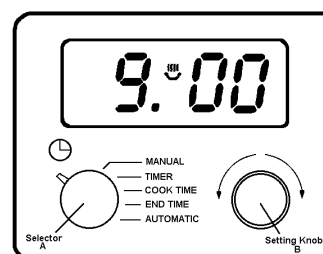

Fig.7
To stop the sound, press button (1). The display will stop flashing and show the time of day, e.g. 15:00. The cooking symbol () will go out. See Fig. 7.
- i) Make sure the electricity supply is switched on. Set the correct time of day, e.g. 9.am Fig.7.